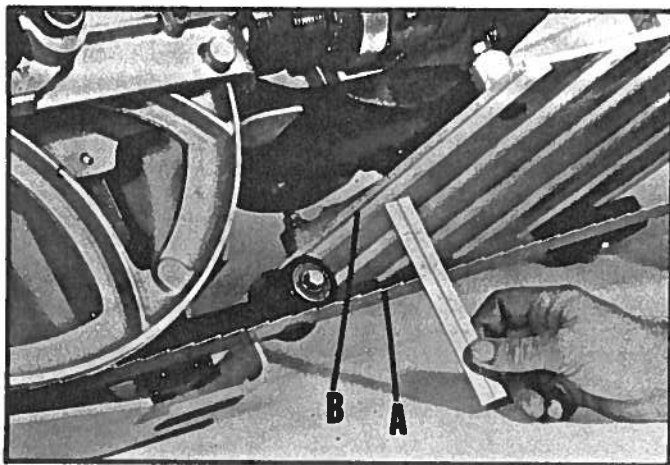

Fig. 24
1. Measure the distance from the top of the saw blade (A) Fig. 24, to the bottom of the nylon guide strip (B) located underneath the platen.